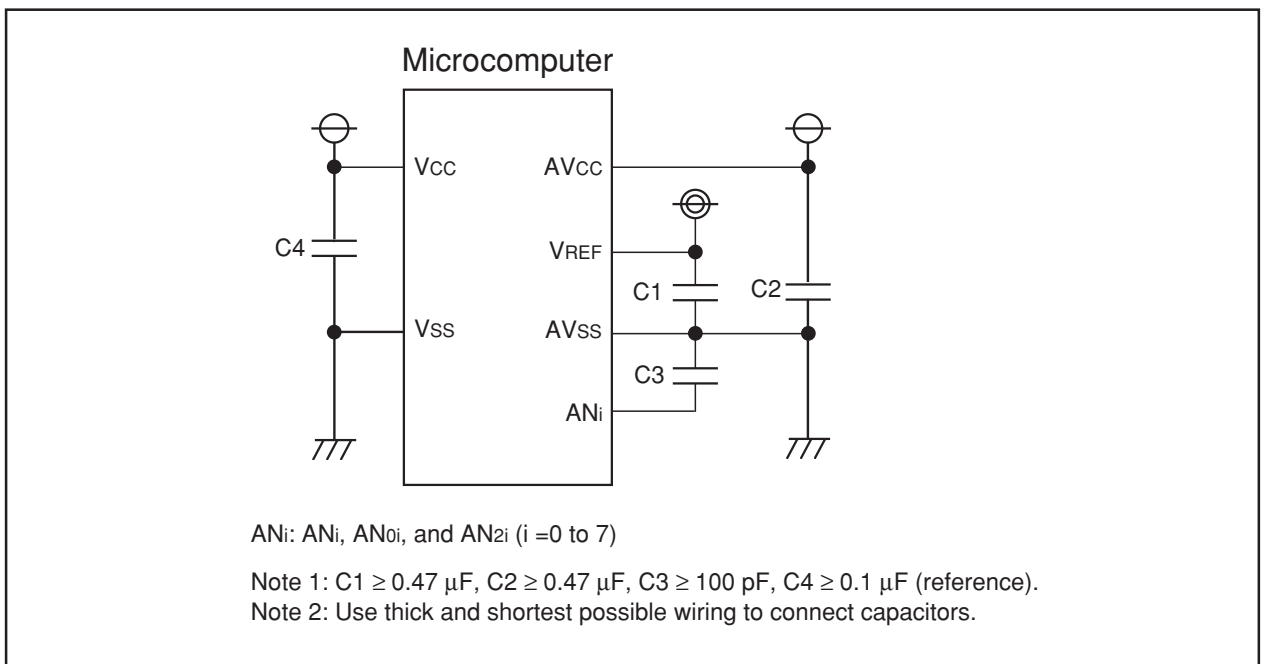

Figure 1.10.1 Use of capacitors to reduce noise
3. To prevent noise-induced device malfunction or latchup, as well as to reduce conversion errors, insert capacitors between the  $AV_{CC}$ ,  $V_{REF}$ , and analog input pins ( $AN_i$  ( $i = 0$  to 7),  $AN_{0i}$ , and  $AN_{2i}$ ) each and the  $AV_{SS}$  pin. Similarly, insert a capacitor between the  $V_{CC}$  pin and the  $V_{SS}$  pin. Figure 1.10.1 is an example connection of each pin.